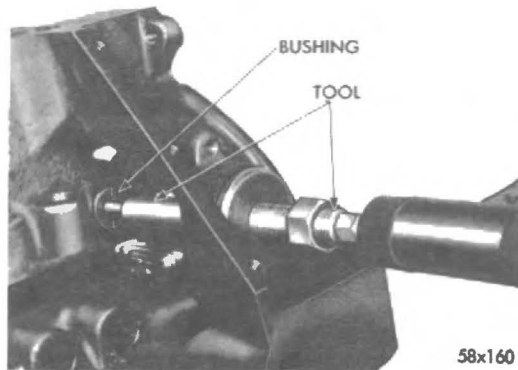
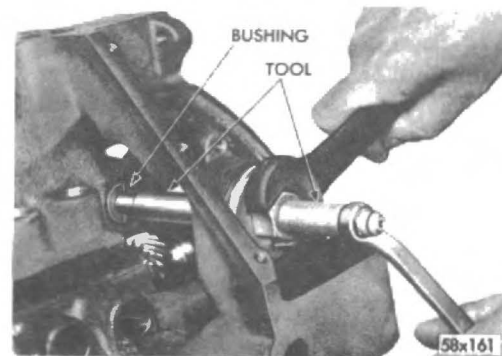

Fig. 23 Installing Distributor Drive Shaft Bushing Using Tool CA-3053
Fig. 24 Burnishing Distributor Drive Shaft Bushing Using Tool CA-3053
(1) Slide a new bushing over the burnishing end of Tool CA-3053 and insert the tool bushing into the core, as shown in Figure 23.
(2) Drive the bushing and tool into position, using a soft hammer.
(3) As the burnisher is pulled through the bushing by tightening the puller nut, the bushing is expanded tight in the block and burnished to correct size, as shown in Figure 24. DO NOT REAM THIS BUSHING.